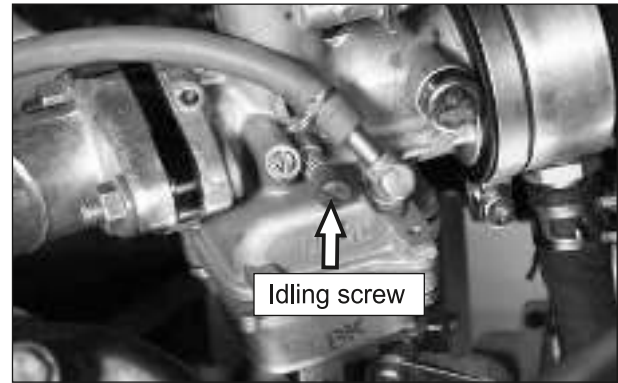

Fig. 2.46
- Close the adjuster screw (Idling) in the carburetor and open the screw to such and extent that the bottom of the screw head is in line with the air screw mounting hole in carburetor (aluminum casting)- show with figure. (Fig. 2.46)